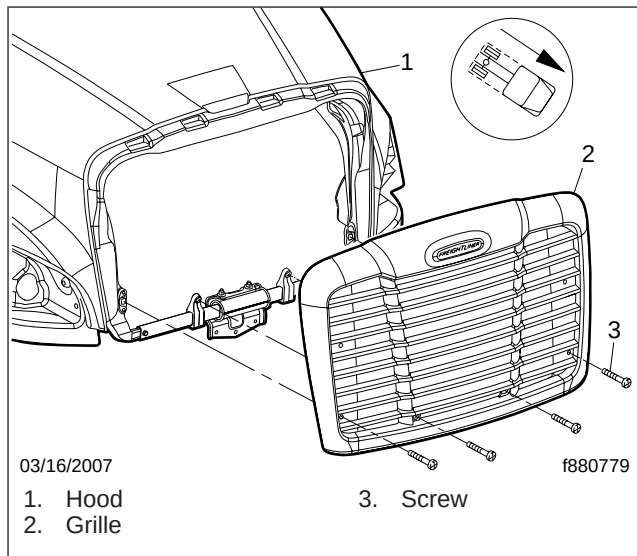

Fig. 1, Grille Installation
2. Remove the four fasteners that attach the grille to the hood; see Fig. 1.
4. Attach the grille to the hood with the four fasteners; see Fig. 1.